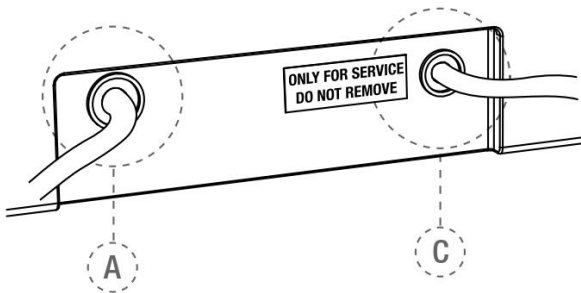

Fig. 2 Back of central unit
- Insert the connector of the battery charger in jack connector (A – see Fig. 2) at the back of the device (for details see chapter 7.3.3.).
- Plug the foot pedal cable into the jack, located on the back of the device (C – see Fig. 2).
Flashing orange: Battery charger is correctly connected to socket (A – see Fig. 2) at the back of the device and battery is charging.